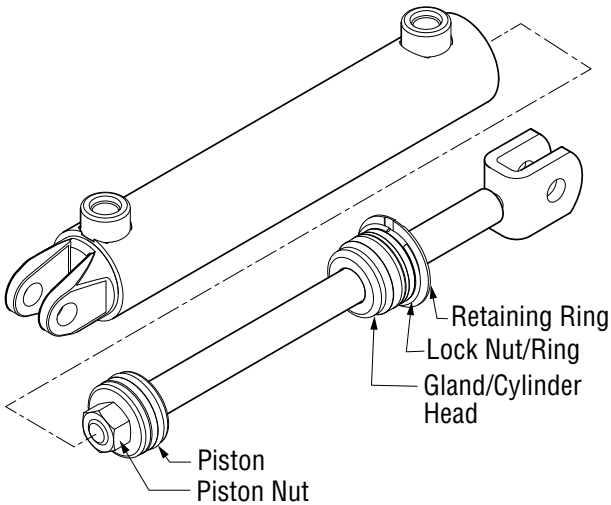

Figure 5-6, Rod Assembly
7. Remove the piston retaining nut and remove the piston. (Figure 5-6)